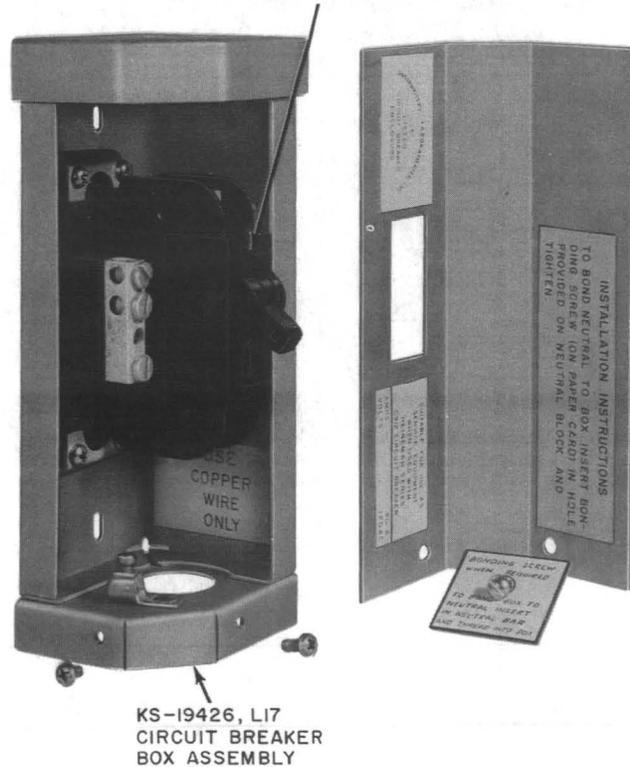

Fig. 8—Circuit Breaker and Box Assembly
- KS-19426, List 17 circuit breaker box (Fig. 8)